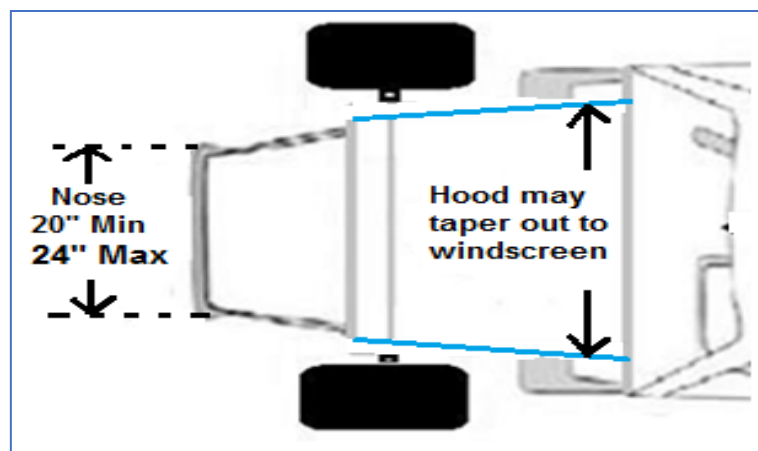

Figure 6
- 8.3 No part of the nose section (excluding bumper) can exceed 20” minimum or 24” maximum in width (*Figure 6*). (Cars manufactured prior to the 2018 production year with the narrow nose will be grandfathered. **If the front clip of a narrow nosed car is replaced, it should be upgraded to a compliant size where possible.**)
- 8.4 Rear of hood may taper out to door panels (*Figure 6*).